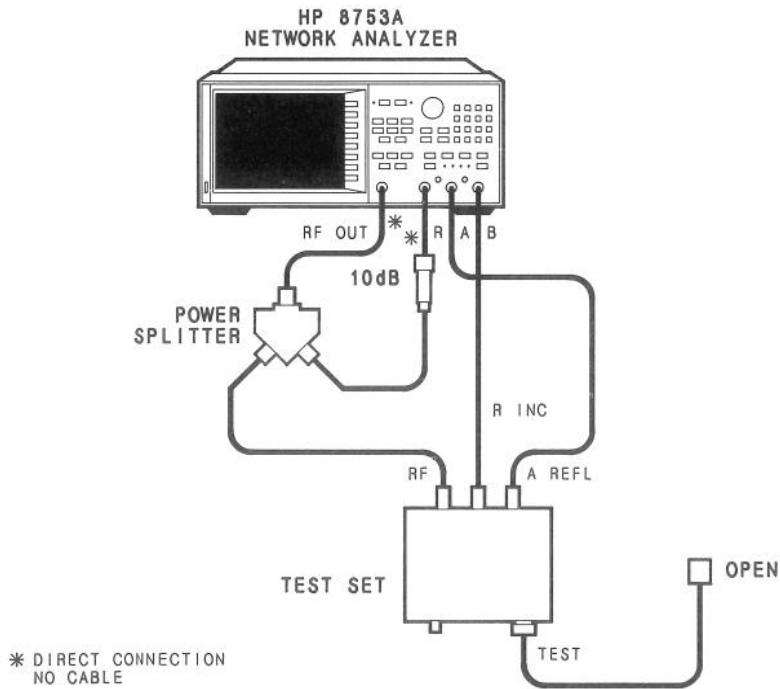

Figure 12. Input R Impedance Test Calibration Setup
17. Connect the equipment as shown in Figure 12. Press **[MEAS]** **[A/B]** and repeat steps 4 through 9 to perform a calibration.